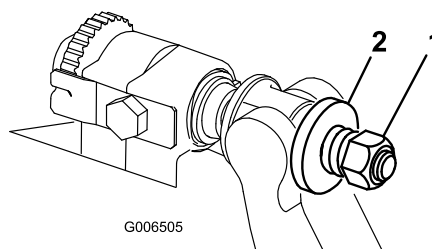

Figure 22
3. Tighten the spring tension nut until the spring is collapsed, then back it off 1/2 turn (Figure 22).